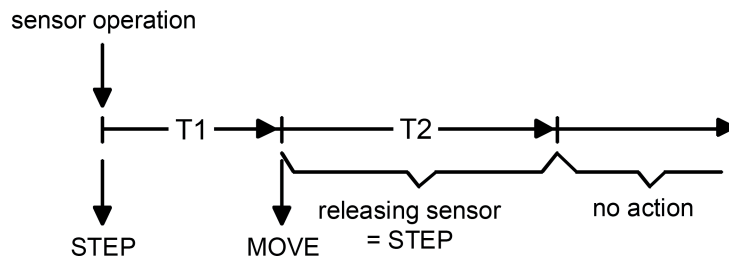

Figure 20: Telegram concept when a sensor surface of the channel function is touched "Venetian blind Step / Move / Step"
- Immediately on pressing a sensor surface the device transmits a short time telegram to the bus (Figure 20), whereupon a running drive is stopped and the "time between short and long time operation" T1 is started internally. If the pressed sensor element is released again within T1, the device transmits no further telegram. This short time serves the purpose of stopping a continuous movement.